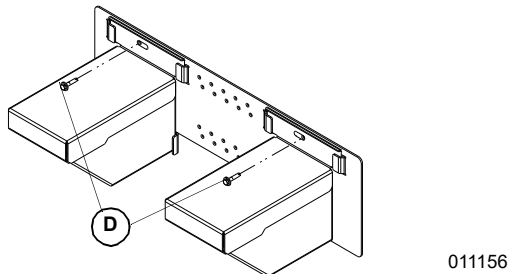

Figure 4. Install Top Fasteners Through Stands and Foot Bracket
- See **Figure 4**. Use flat washers and fasteners (D) to secure top of foot bracket and stands.